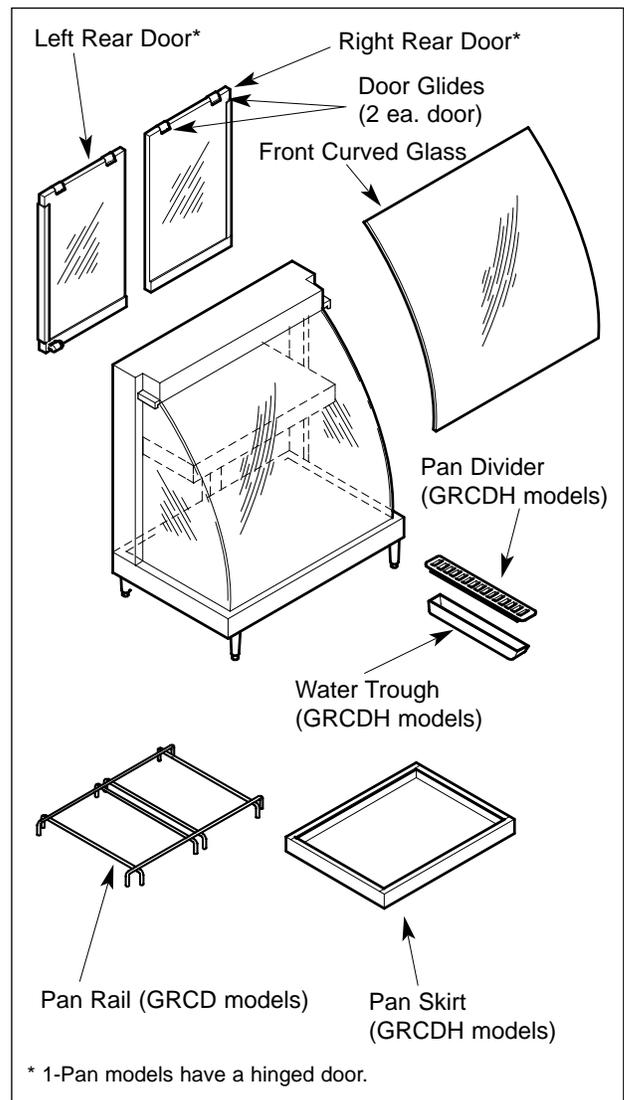

Figure 9. Exploded View - GRCD Models
*NOTE: Do not remove the plastic glides from top of door glass. See Figure 9.*